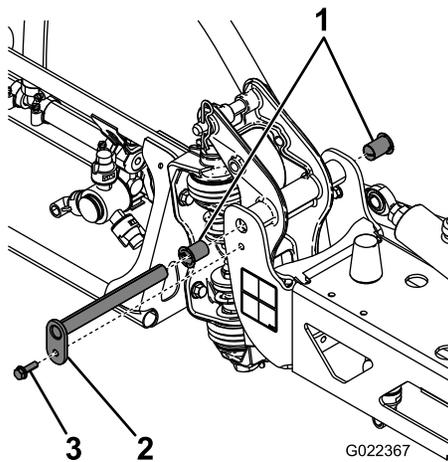

Figure 63
3. With the weight of the boom supported, remove the bolt and nut securing the pivot pin to the boom assembly (Figure 63).
4. Remove the bolt and nut that secure the pivot pin, and remove the pin (Figure 63).
6. Remove and inspect the nylon bushings from the front and back sides of the pivot bracket (Figure 63).
7. Place a small amount of oil on the nylon bushings, and install them into pivot bracket (Figure 63).
8. Install the boom and pivot bracket assembly into the center frame, aligning the holes (Figure 63).